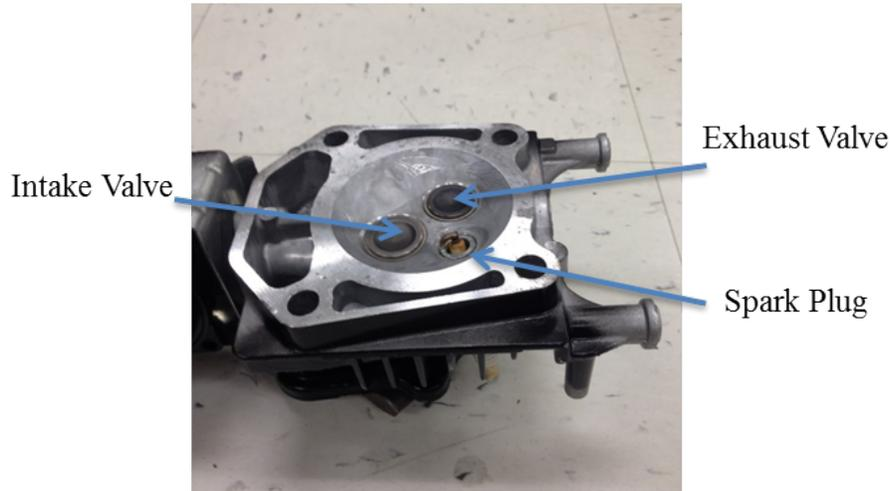

Figure 9: the cylinder head
- b) Identify the cylinder head. Pick it up and push on one of the valve springs. Note the valve opening when the spring is compressed. See Figure 9.